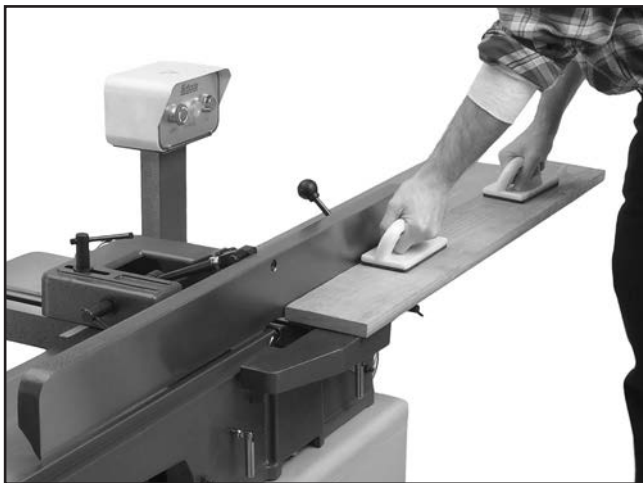

Figure 28. Typical rabbet cutting operation.
The purpose of rabbet cutting is to remove a section of the workpiece edge (see **Figures 28 & 29**). When combined with another rabbet cut edge, the rabbet joints create a simple, yet strong method of joining stock.
7. With a push block in each hand, press the workpiece against the table and fence with firm pressure (**Figure 28**), and feed the workpiece over the cutterhead. **Note:** If your leading hand gets within 4" of the cutterhead, lift it up and over the cutterhead, and place the push block on the portion of the workpiece that is on the outfeed table. Now, focus your pressure on the outfeed end of the workpiece while feeding, and repeat the same action with your trailing hand when it gets within 4" of the cutterhead. To keep your hands safe, DO NOT let them get closer than 4" from the cutterhead when it is moving!